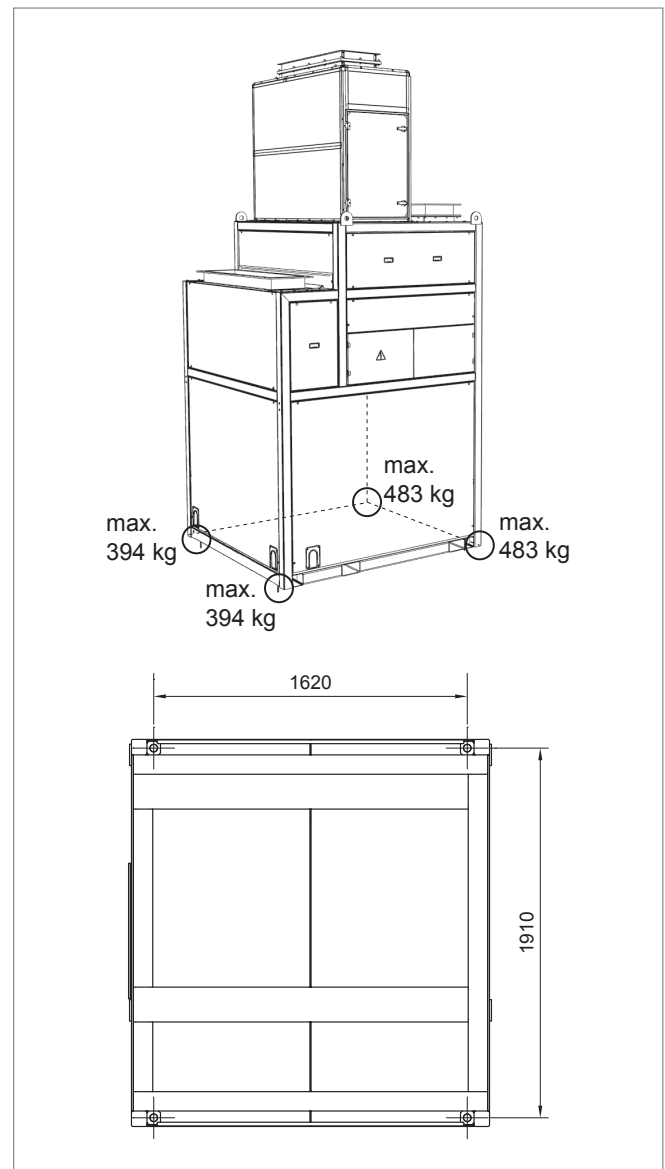

Fig. 12: Load distribution
- Ensure that the installation surface is of sufficient load-bearing capacity. The weight of the unit is distributed over 4 points (see Fig. 12).